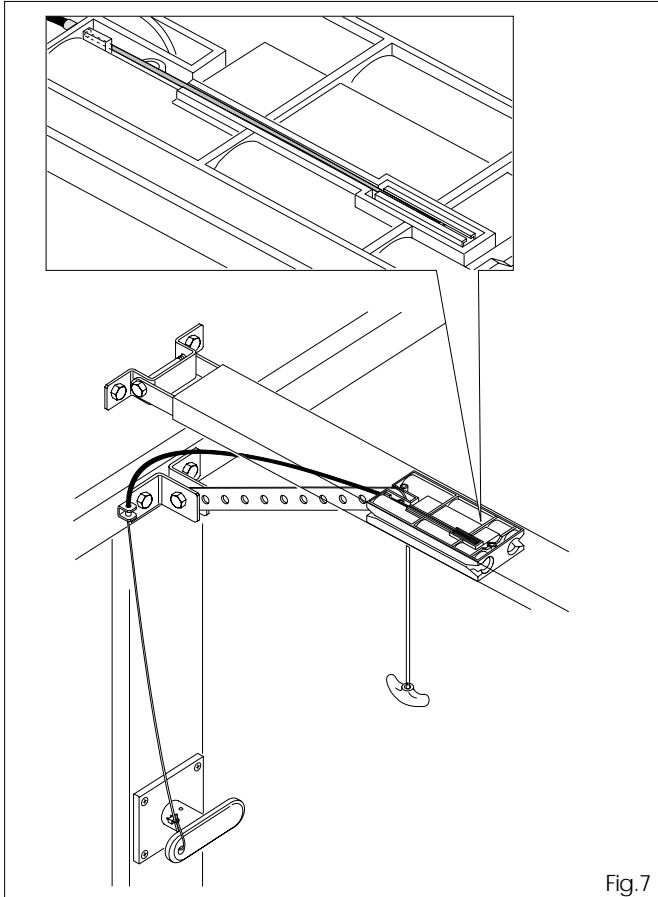

Fig.7
5.1 **If using the outside release device (optional item), withdraw the carriage from the guide, and fit the cable in the appropriate seat on the carriage, as shown in figure 7.**